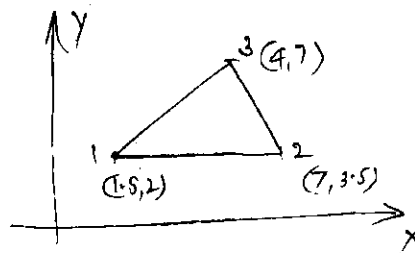

Fig. Q3 (a)
- 3 a. Determine Jacobian of the transformation J for the triangular element shown in the Fig. Q3 (a).